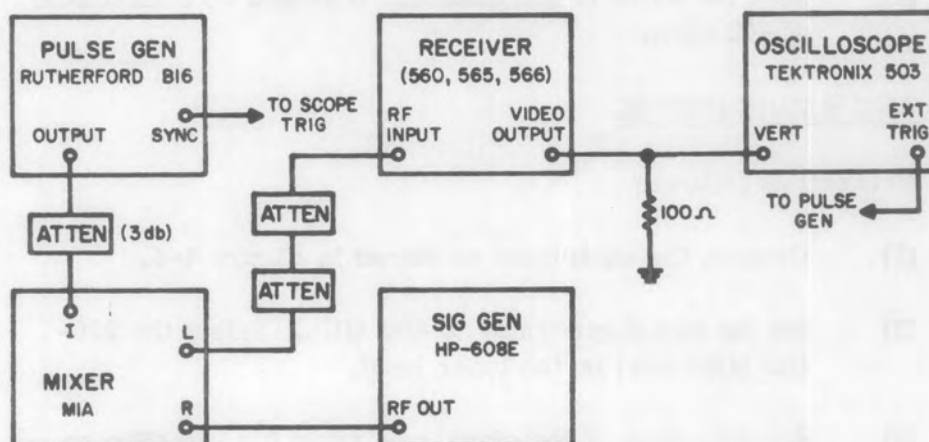

Figure 4-3. Equipment Setup; Pulse Mode Sensitivity Test 4.6.6
- (1) Connect equipment as shown in Figure 4-3.